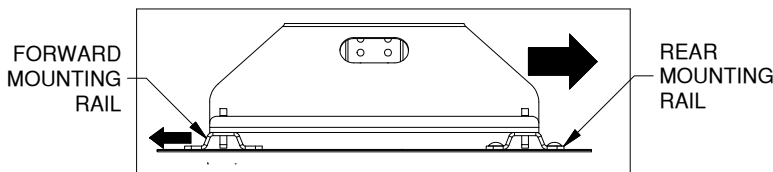

Figure E2: Side view of RV base and mounting rails.
**IMPORTANT:** Before drilling forward mounting holes pull the RV base towards the rear of the truck and push the forward rail towards the cab of the truck to correctly space the mounting rails, see Figure E2.